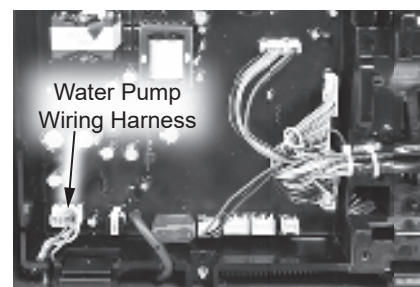

Figure 161 - Water pump wiring harness location
- 14 Locate the water pump wiring harness on the control board panel as shown in Figure 161. Disconnect and route the wiring out of the away for ease of removing the water pump.
35 Lift the control board panel up and reconnect the water pump wiring harness previously disconnected in **Step 14**. Slide the wiring through the slot in the circuit board panel as shown in Figure 161. Lower control board panel.